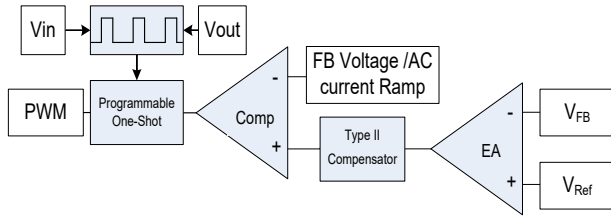

Figure 9. Simplified Control Schematic of AOZ24585QV
The control algorithm of AOZ24585QV is constant on-time PWM control with input feed-forward. The simplified control schematic is shown in Figure 9. The high-side switch on-time is determined by Fsw pin strap and it's inversely proportional to input voltage (IN). The one-shot is triggered when the  $V_{ref}$  is higher than the combined information of FB voltage, internal error amplifier and the AC current ramp, which is processed and obtained through the sensed lower-side MOSFET current once it turns-on. The added AC current information can help the stability of constant-on time control even with pure ceramic output capacitors, which have very low ESR. The AC current information has no DC offset, which does not cause offset with output load change, which is fundamentally different from other  $V^2$  constant-on time control schemes.